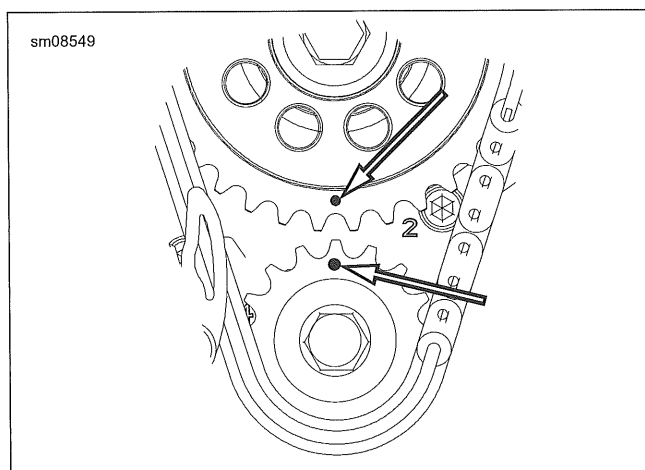

Figure 4-53. Timing Marks
- Install cam sprocket spacer (10).
- See Figure 4-53. Assemble sprockets and chain with timing marks aligned. Verify that the marked chain link is on the same side as the timing marks.